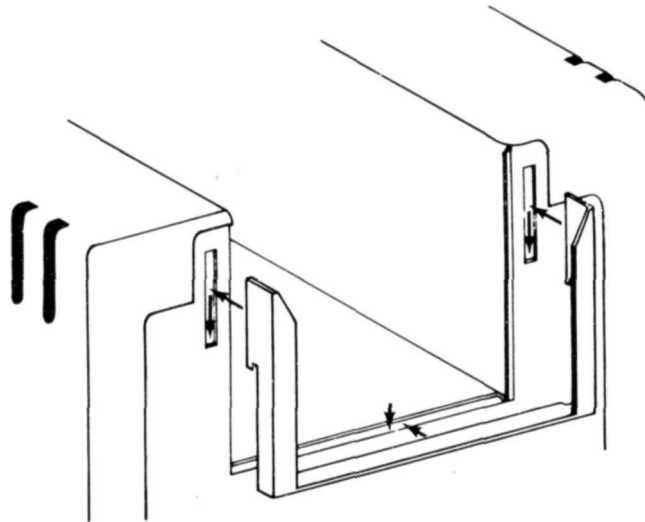

Figure 6B. Card Retainer Installation
4. Verify that the metal card retainer is installed in the slots at the rear of the hopper as shown in Figure 6B.